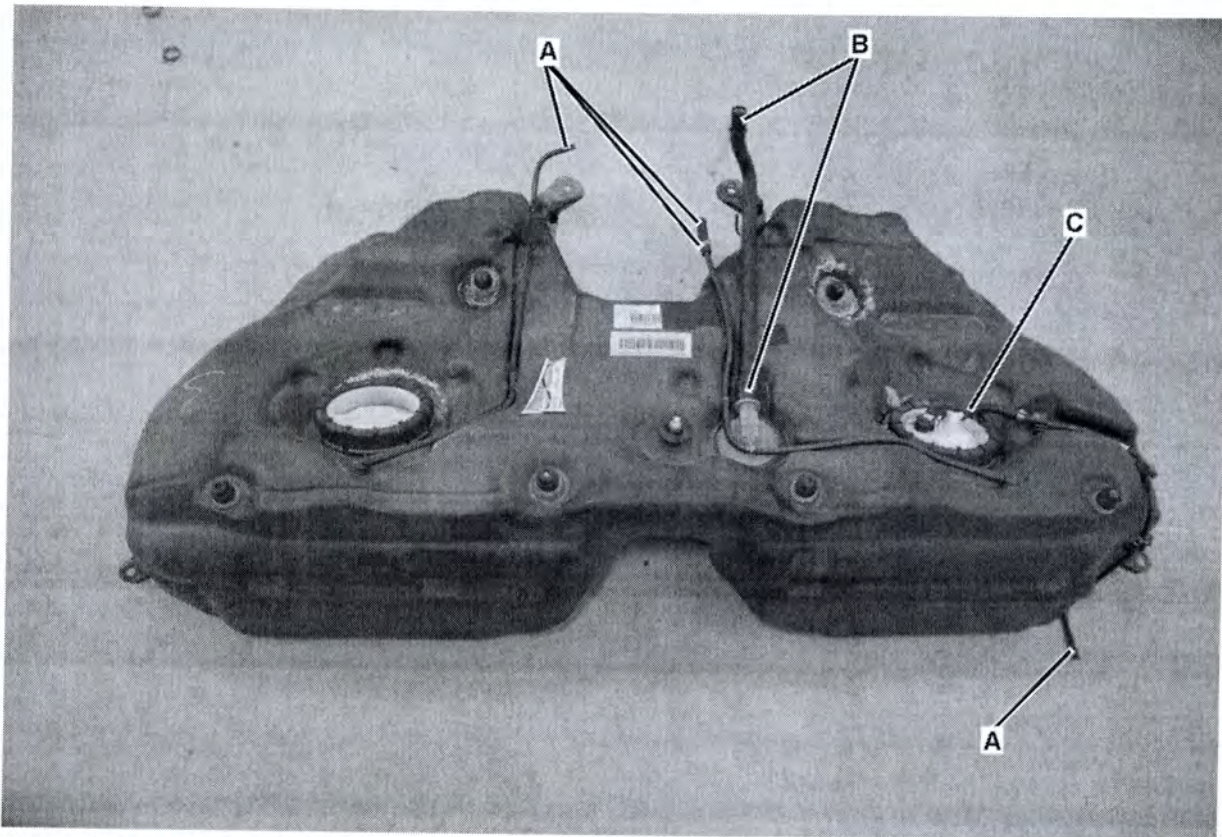

Figure 2 (shown on model 211.056 installation locations on other models may vary)
- Refer to Figure 2 for location of clic ® clamps according to part number.
Legend for Figure 2